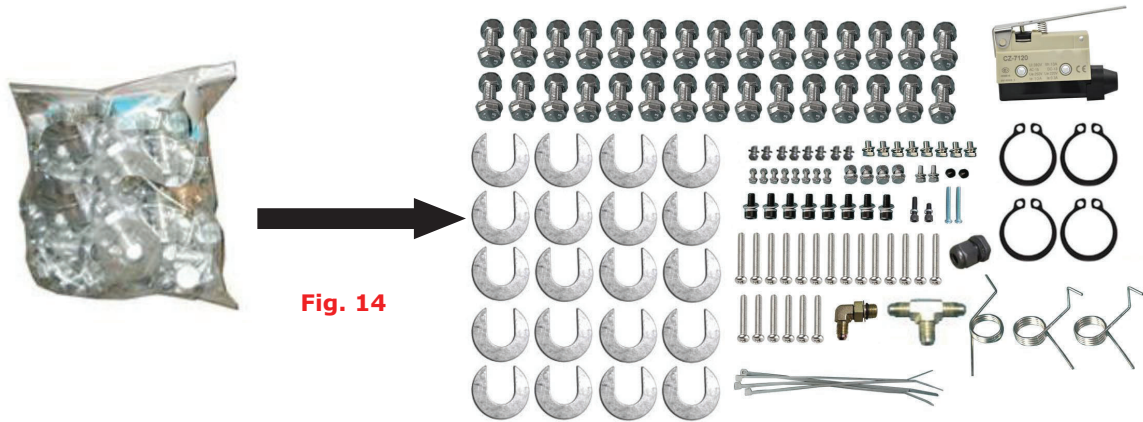

**Fig. 11**
5. Lift the lower column with a fork lift or hoist, take down the package stand, then take off the lower outer column, take out the parts in the inner column (See Fig. 11).